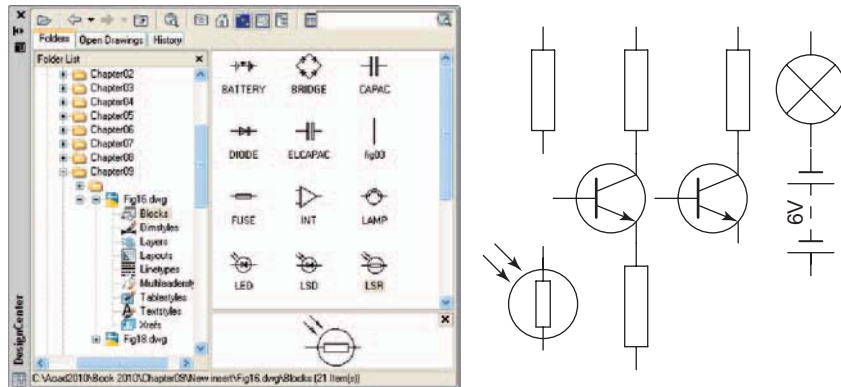

Fig. 9.17 Example using the DesignCenter
4. From the **Folder list** select the file **Fig16.dwg** and *click* on **Blocks** under its file name. Then *drag* symbol icons from the **DesignCenter** into the drawing area as shown in Fig. 9.17. Ensure they are placed in appropriate positions in relation to each other to form a circuit. If necessary either **Move** and/or **Rotate** the symbols into correct positions.
2. Construct drawings of the electric/electronics symbols in Fig. 9.17 (page 187) and save them as blocks in a drawing file **electronics.dwg**.